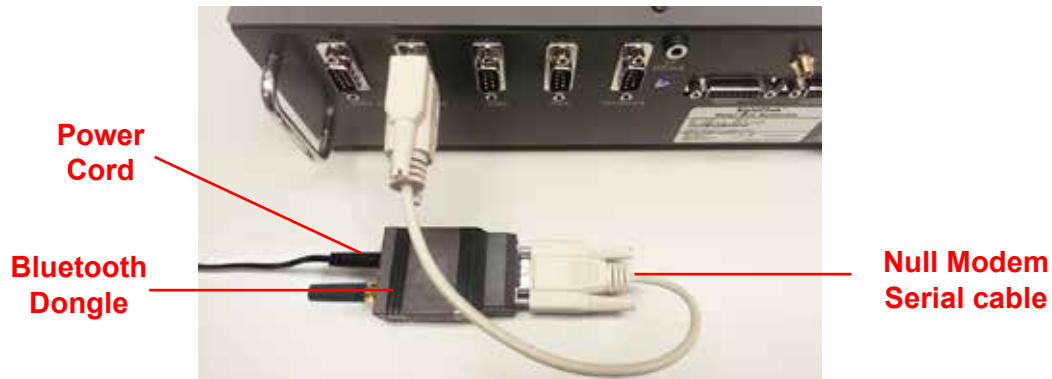

Figure IS-16 Bluetooth Dongle to Relay Box Assembly
8. Connect the Bluetooth dongle to the appropriate Relay Box port, using the provided null modem serial cable. Refer to Figure IS-16.
9. Tap the **OK** button and wait several seconds to make sure that the driver is loaded. Refer to Figure IS-16.